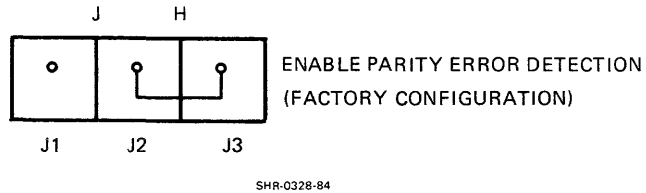

Figure 2-8 Enable/Disable Parity Error Detection
**2.2.7 Enable Parity Error Detection Jumper (Figure 2-8)**